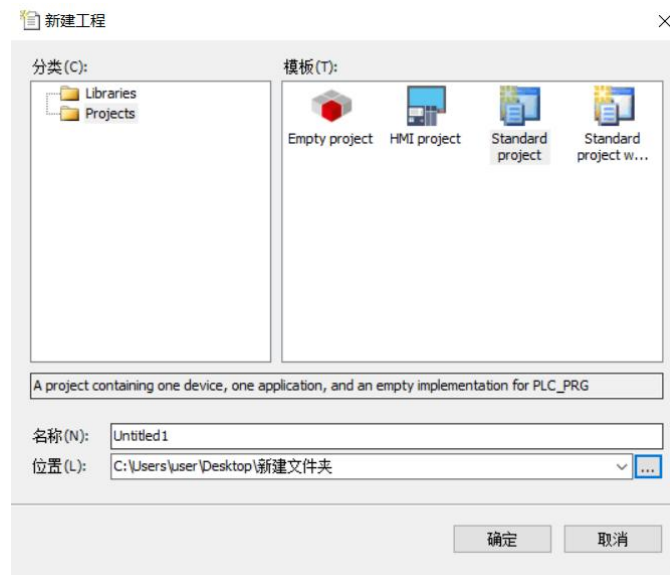

Figure 13-2 Project classification
1. Double click Codesys V3.5 and click [New Project], as shown in Figure 13-2.
2. Select [Standard project] to define the name and storage path, then click [OK], as shown in Figure 13-2